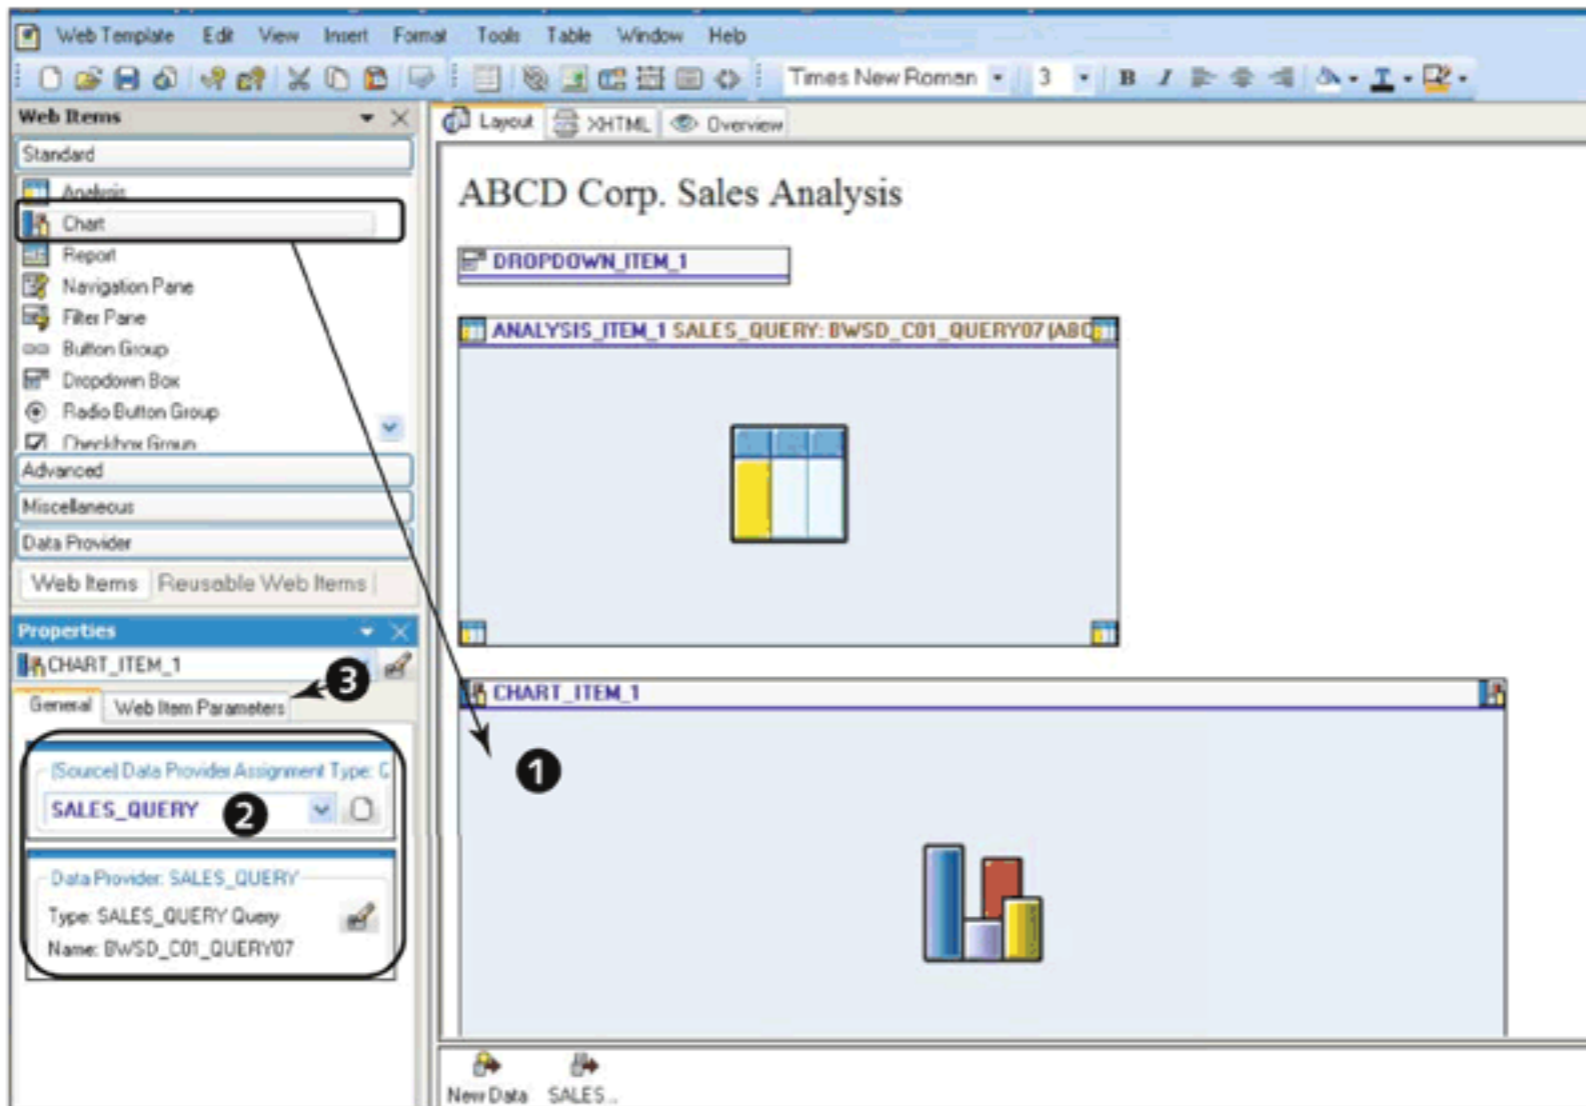

Figure 11.9 Add Chart Web Item
The **CHART** web item displays data from the data provider in graphical format. To add a chart to the web template, drag the **CHART** web item from the **WEB ITEMS** area into the layout (see 1 of Figure 11.9). Assign the data provider to this web item in the **PROPERTIES** box (2). The detailed setting for the graphical display is done in the **WEB ITEM PARAMETERS** tab of the **PROPERTIES** box (3).